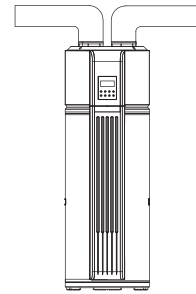

Fig.6-6
- In terms of the main unit connect with canvas reaching to outdoor, a reliable water-resistant measure must be conduct on the duct, resist water drop into internal of the main unit.(Fig.6-6)